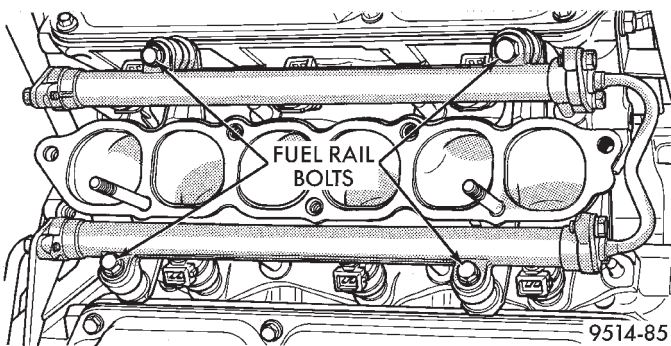

Fig. 28 Fuel Rail Attachment
- (3) Disconnect fuel supply tube from rail. Refer to Quick-Connect Fittings in this section.
- (4) Remove the Intake Manifold, refer to the Engine section.
- (5) Disconnect electrical connectors from fuel injectors.
- (6) Remove 4 bolts holding fuel rail (Fig. 28).